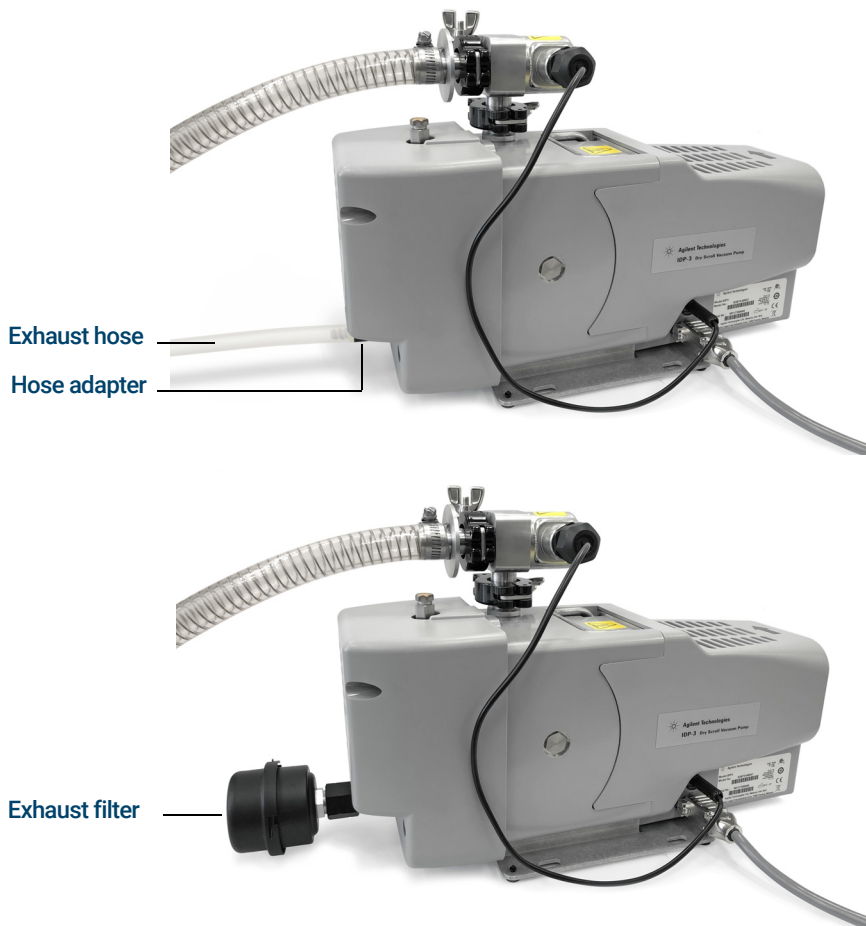

Figure 11. IDP3 pump with exhaust filter
- 1 Unscrew the cap from the exhaust filter. (See Figure 11 on page 107.)